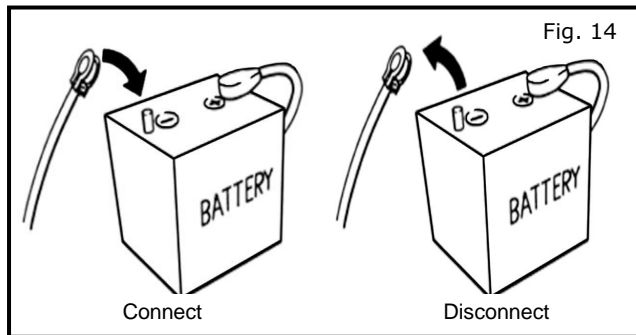

Fig. 14
- 20) Move Seat rearward to access lower seat to make headrest cable connections. Figure 14